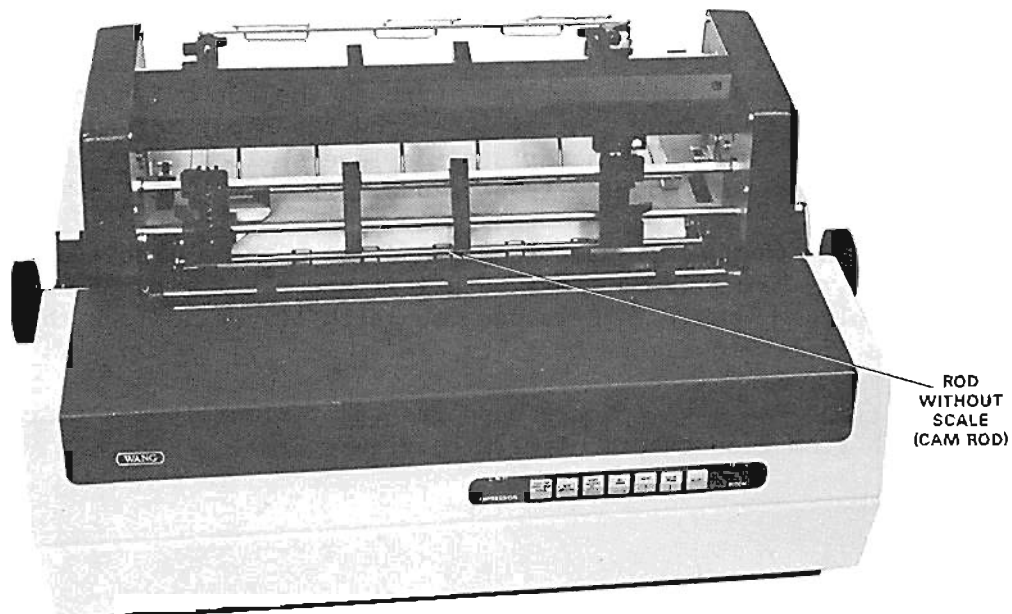

Figure E-1. BFT-1: Bidirectional Forms Tractor (using 2281W)
Before the tractor is mounted on the printer, the paper scale and rod assembly over the platen must be removed and replaced with a rod without a scale (refer to Figure E-1). The rods are easily attached to the printer by a spring-loaded mount.
4. Determine that the paper is positioned in back of the cam rod (refer to Figure E-1).